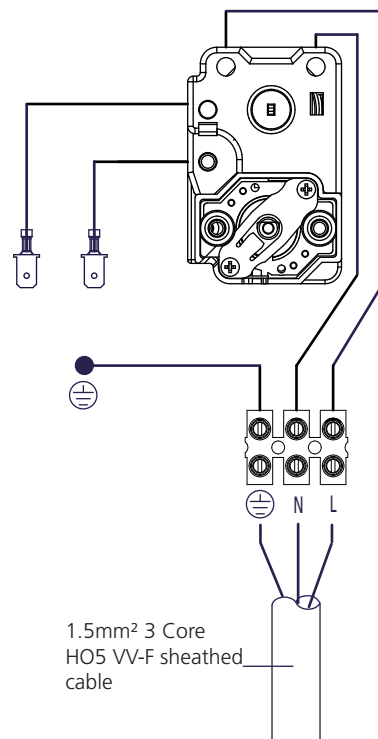

Figure 13: Wiring schematic - DIRECT models
- ▶ The immersion heater(s) should be wired in accordance with Fig 13. The immersion heater(s) MUST be earthed. The supply cable should be a minimum 1.5mm2 3 core HO5 VV-F sheathed cable and must be routed through the cable entry ports provided with the outer sheath of the cable firmly secured using the cable securing bar provided.